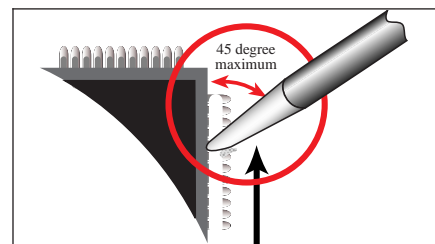

Figure 4 Draw Tip Down
8. Maintaining the same angle, draw the tip down the row of leads slowly and steadily. (See Figure 4.)